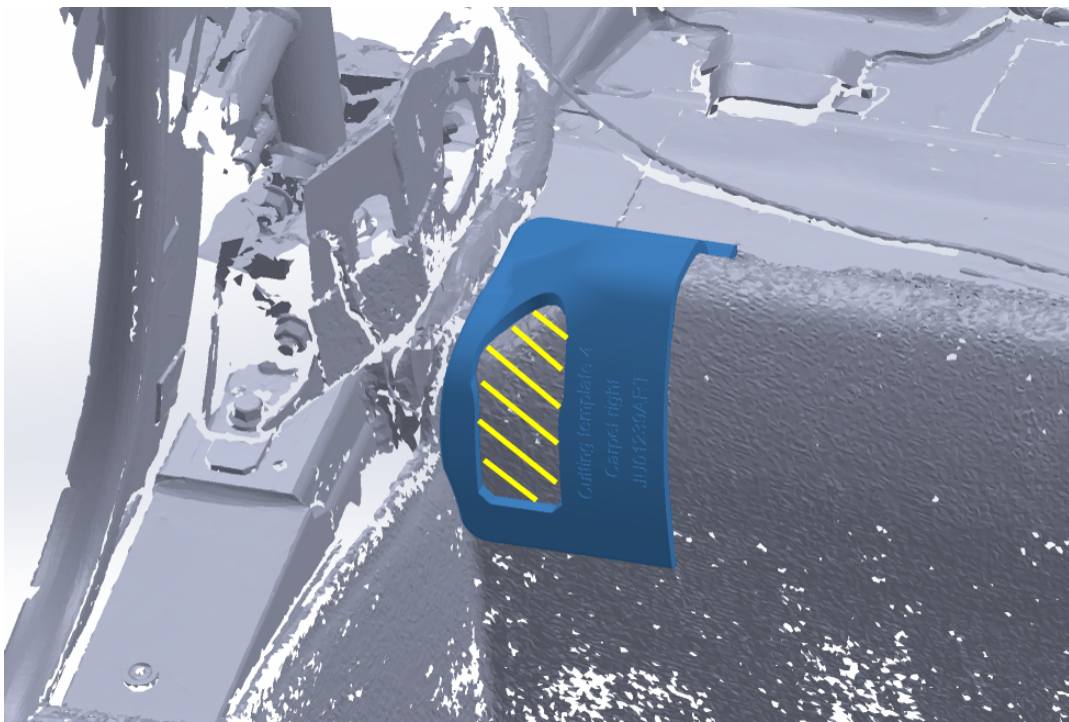

Fig 7: Cut the carpet using the cutting templates 3 (8) and the cutting template 4 (9).
6. Cut the carpet as shown in Fig 7 using the cutting templates 3 (8) and the cutting template 4 (9) on both sides.